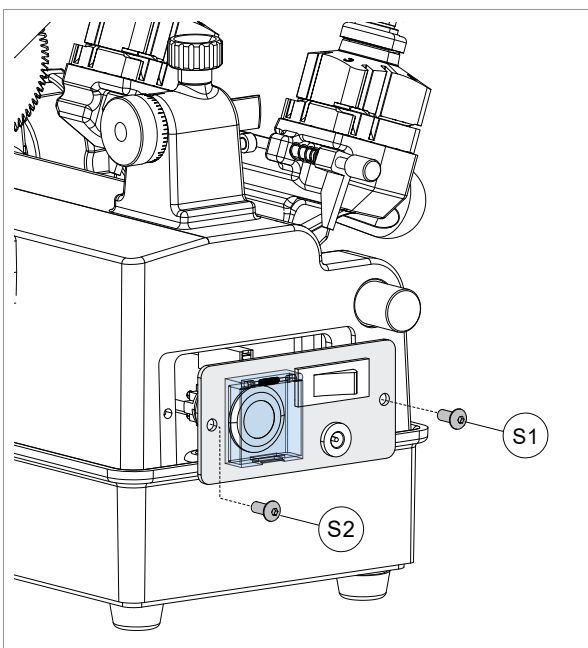

Fig. 42
- 2) Place the machine in upright position and unscrew (S1) and (S2) screws to open the plate, as shown in Fig. 42.